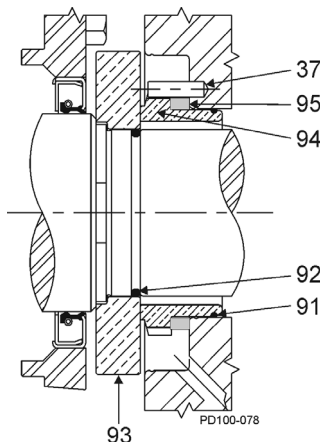
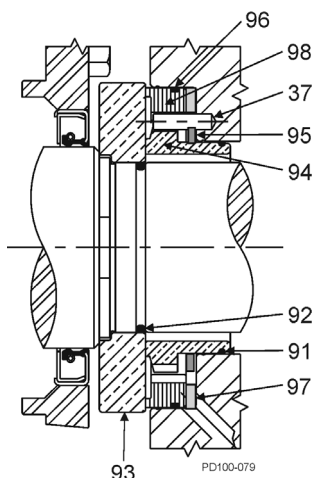

Figure 67 - Single Mechanical Seal
Figure 68 - Double Mechanical Seal
1. Lubricate the shaft O-ring (Figure 67, item 92) with a lubrication compound compatible with the O-ring material and process fluid(s). Place the O-ring on the shaft.
2. Install the rotating seal seat (item 93) on the shaft. Align the drive flats on the seat with the drive flats on the shaft.
4. Install the inner wave spring (item 95) onto the inner seal (item 94).
5. Lubricate the inner seal O-ring (item 91) with a lubrication compound compatible with the O-ring material and process fluid(s). Install the inner seal O-ring into the groove of the inner seal.
7. If a double mechanical seal is used, install the outer wave spring (Figure 68, item 97) in the body and the outer O-ring (item 96) in the outer seal groove (item 98). Place the outer seal in the pump body around the inner seal, aligning the notches in the outer seal with the stop pins in the body.